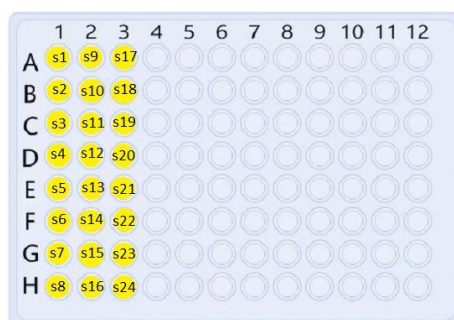

Figure 1: 24 sample input plate example (s1 – s24). Prepare in a 96 well PCR plate (Bio-Rad, HSP9601).
1. Prepare DNA sample plate. If preparing amplicon libraries, shearing can be bypassed. If DNA is already diluted in Elution buffer in a volume of 24.5 µL, sample can be added to a 96 well PCR plate (Bio-Rad, HSP9601) starting with position A1. Proceed to fill the plate by column as shown in Figure 1 below.
If pipette shearing, adjust volume to 300 µL (≤ 300 ng gDNA mass, ≤ 1 ng/µL). Manually pipette diluted DNA into a 96 deep well plate (ThermoFisher Scientific, AB0859) starting with position A1. Proceed to fill the plate by column as shown in Figure 1 below.